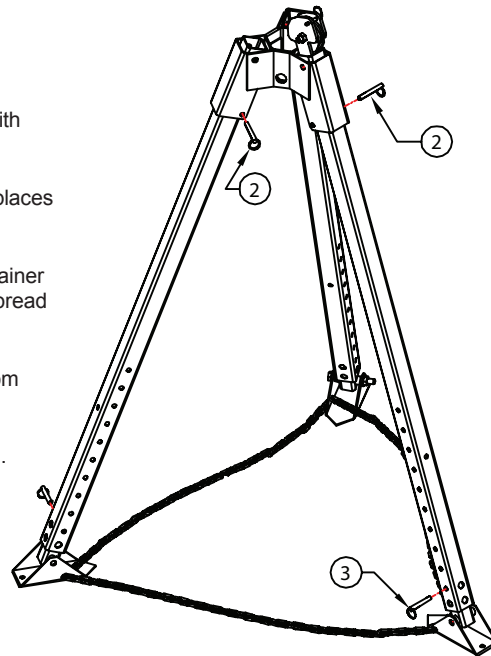

FIG 2
3. Fully spread all 3 legs. Install leg retainer pins[2] in 3 places to secure legs in a spread position (See Fig. 2).